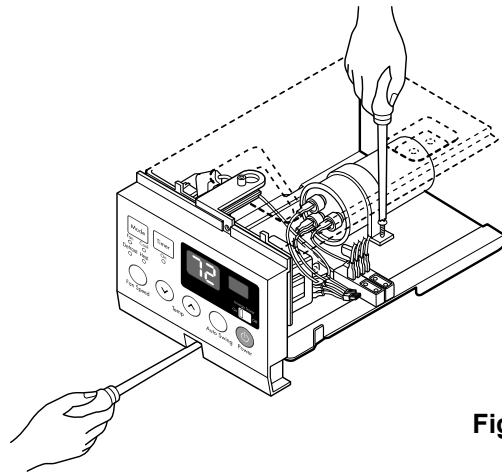

Figure 27
7. Re-install the components by referring to the removal procedure, above. (See Figure 27)